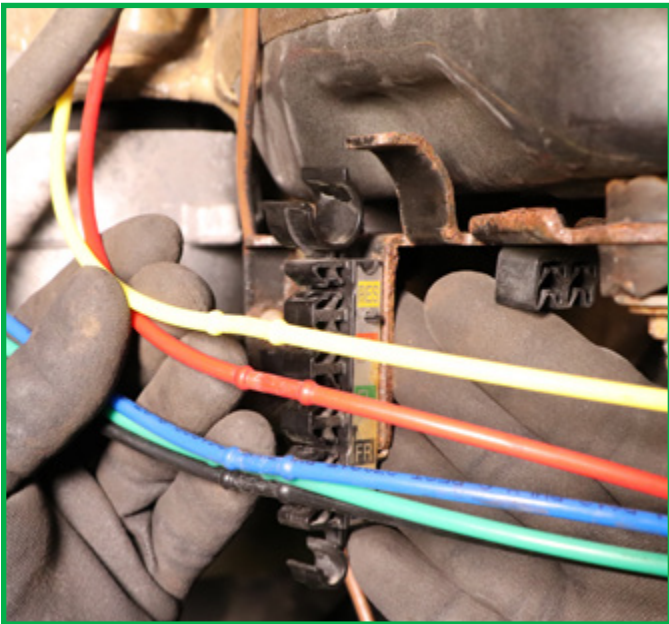

FIGURE 15
9. Unclip the air lines from the compressor bracket assembly. (Figures 15, 16)